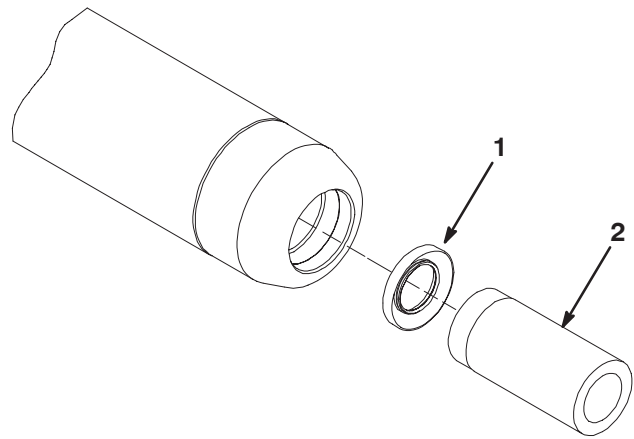
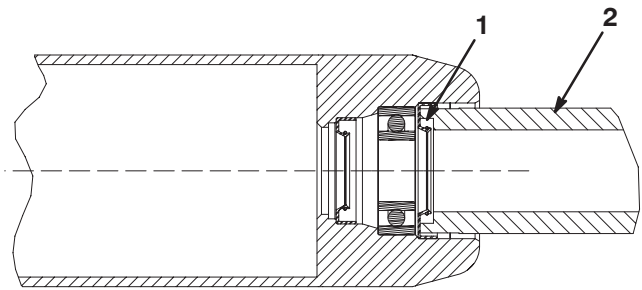

Figure 6
Figure 7
9. On the same end of the roller tube, use the Bearing/Outer Seal Tool to install (2) outer seals as follows:
- Install the first seal gently into the tool (Fig. 6), and lightly tap the seal into the roller tube until it is seated (Fig. 7).
Note: Make sure the seal is installed as shown in figures 6 & 7. The garter spring is to be facing toward the outside of the roller.